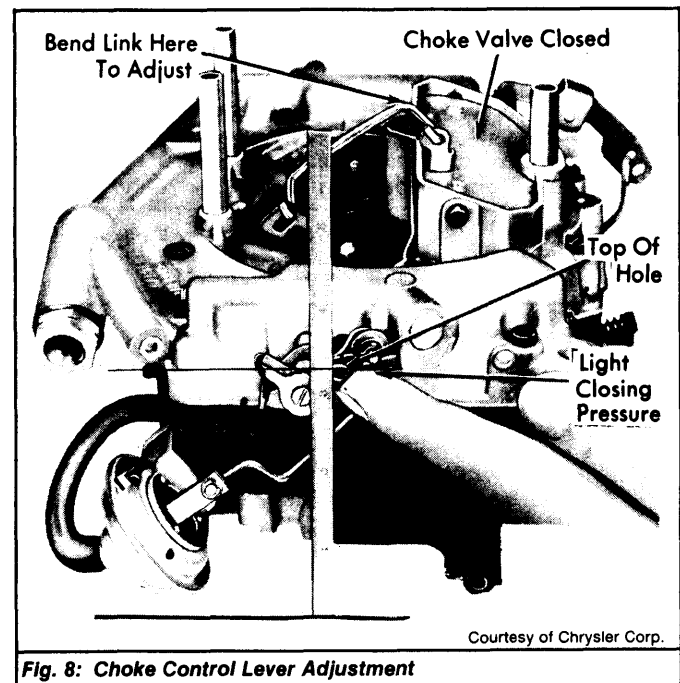

Fig. 8: Choke Control Lever Adjustment
1) Place carburetor on a flat surface. Make sure bottom of throttle body is flush with flat surface and that flat surface extends out under choke control lever. See Fig. 8.